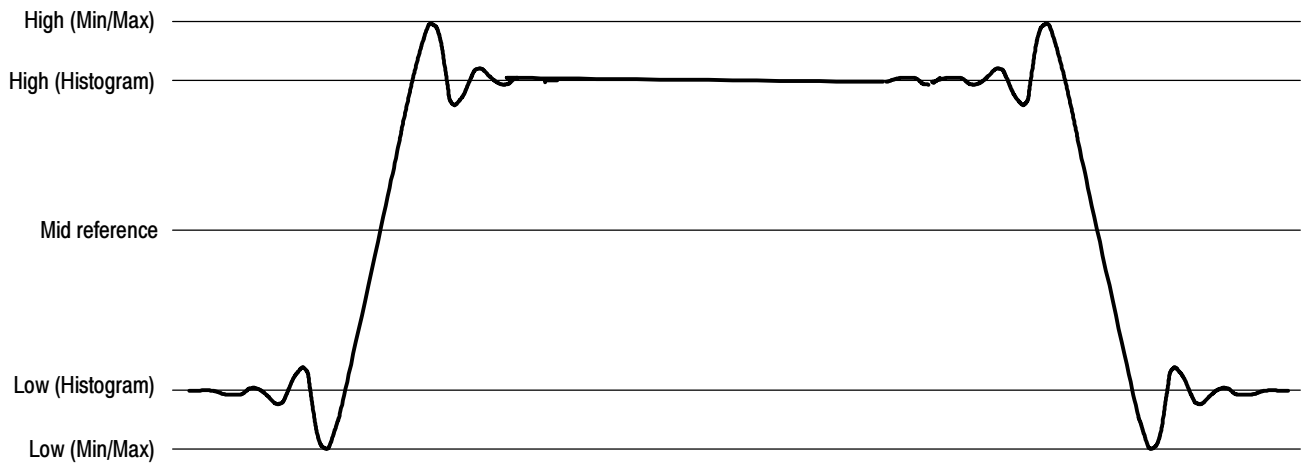

Figure 3-32: High/Low tracking methods
- *Histogram* sets the values statistically. It selects the most common value either above or below the midpoint (depending on whether it is defining the high or low reference level). Since this statistical approach ignores short term aberrations (overshoot, ringing, etc.), Histogram is the best setting for examining pulses. See Figure 3-32.
- *Min-max* uses the highest and lowest values of the waveform record. This setting is best for examining waveforms that have no large, flat portions at a common value, such as sine waves and triangle waves — almost any waveform except for pulses. See Figure 3-32.
| <p>Set measurement reference levels</p> | <p>12. From the Measurements control window, touch Setup Ref Levs to display the Reference Levels setup control window.</p> <p>13. To use these settings for all measurements, toggle the Use On All Meas button to On. To set different values for some measurements, toggle the Use On all Meas button to Off.</p> <p>14. To select how the oscilloscope determines the base and top of the waveform, touch Determine Base, Top Form Min-Max, Histogram, or Histogram mean.</p> <ul style="list-style-type: none"> ■ Min-max uses the highest and lowest values of the waveform record. This setting is best for examining waveforms that have no large, flat portions at a common value, such as sine waves and triangle waves — almost any waveform except for pulses. See Figure 3-32 on page 3-125. ■ Histogram selects the most common values above or below the midpoint. Since this approach ignores short term aberrations (overshoot, ringing, and so on), Histogram is the best setting for examining pulses. See Figure 3-32 on page 3-125. ■ Histogram mean. Calculates the mean value using all values either above or below the midpoint (depending on whether it is defining the high or low reference level). Histogram mean is best for examining eye patterns and optical signals. <p>15. To select the reference level units, touch Units Absolute or Percentage.</p> <ul style="list-style-type: none"> ■ Absolute sets the units to absolute values in user units. ■ Percentage sets the units as a percentage of the High/Low range. <p>16. To set the reference levels, touch HighRef, Mid Ref, Low Ref, or Mid2 Ref, and use the multipurpose knobs or keypad to set the levels.</p> |      |